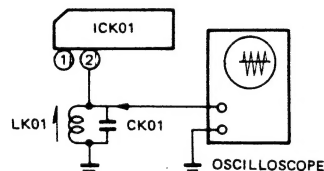

Figure 10. Equipment Connections
2. Connect an oscilloscope across CK01. (See figure 10.).